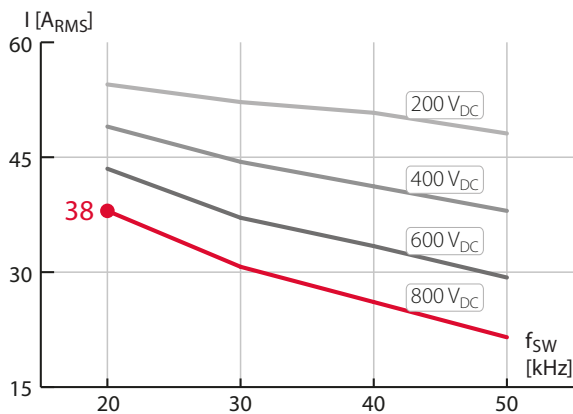

Fig. 3. Current capability as a function of the switching frequency
- » The switching frequency is increased (Fig. 3)